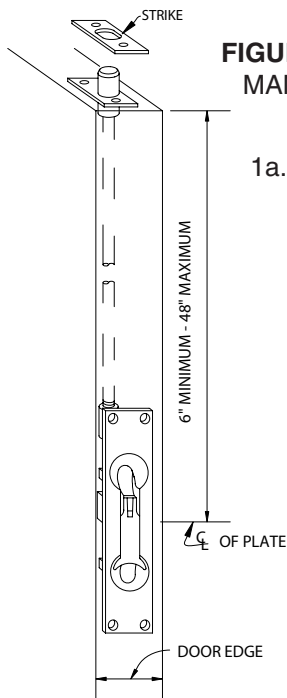

FIGURE 11a
- 1a. Manual Flush Bolts, Figure 11a, require hand operation of the lever for both latching and unlatching.